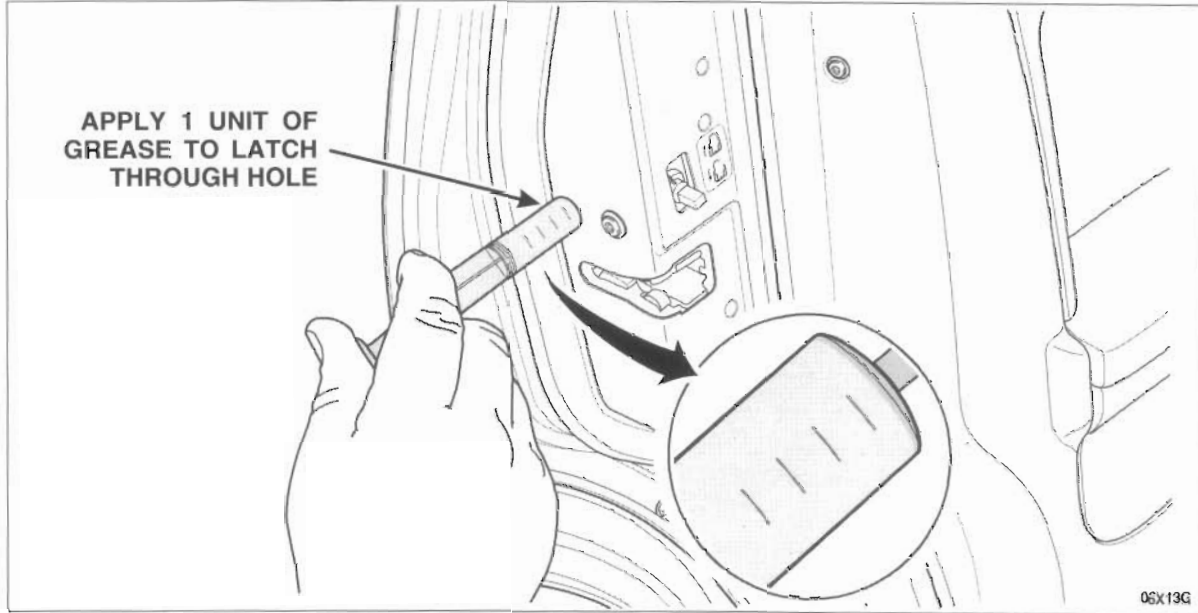

FIGURE 7
2. Fully insert the tip of the syringe into the screw hole and apply approximately one (1) unit of grease (one graduation mark on the syringe). See Figure 7.